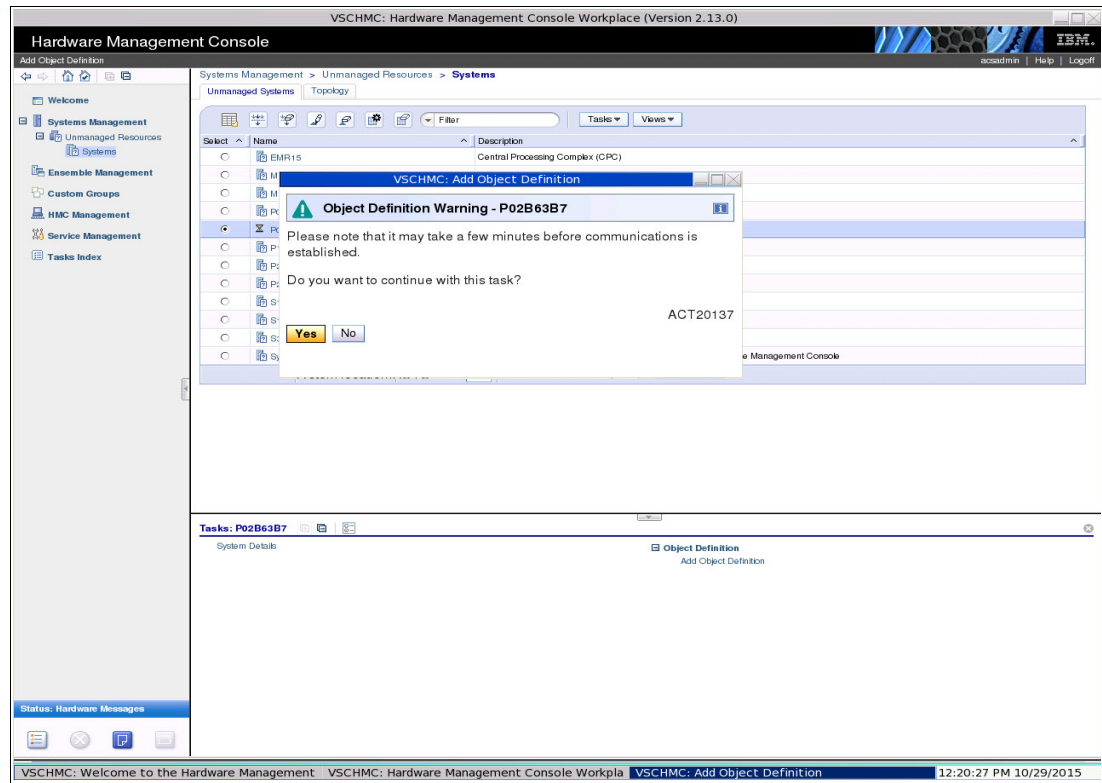

Figure 4-10 Informational window
7. An Object Definition Warning window opens. We continue by selecting **Yes**, as shown in Figure 4-10.